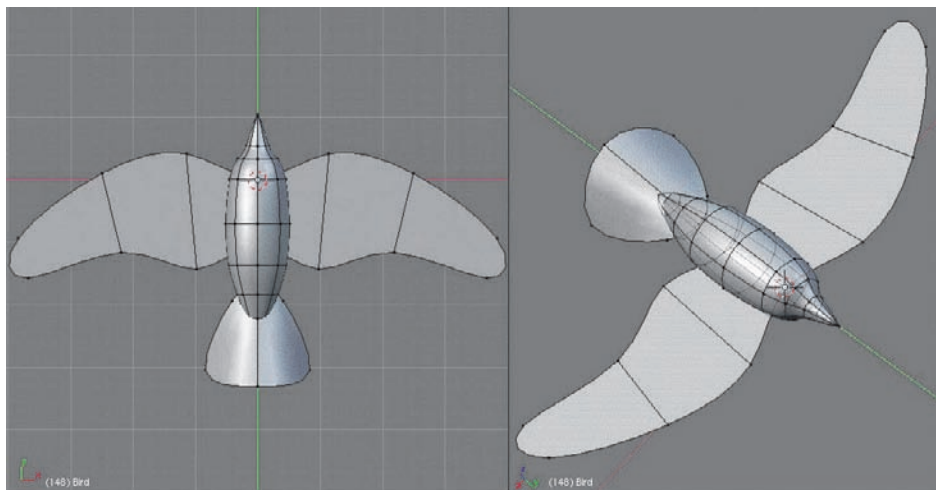

Figure 2.63 The bird model
1. Model the bird along the lines of Figure 2.63. I started with a UV sphere with eight segments and eight rings, and I edited the nose and tail by using the proportional editing tool. The wings and the tail are separate divided planes. The object has a subsurface modifier, and Set Smooth is selected. The image on the left of the figure is seen from above, with NUM7. Make sure that the bird is facing this direction, pointing along the Y axis with its wings extending along the X axis. The scale of the bird is approximately 4 Blender Units (BUs) long and 8 BUs wide from wing tip to wing tip. In Object mode, press Ctrl+A to set the scale and rotation.